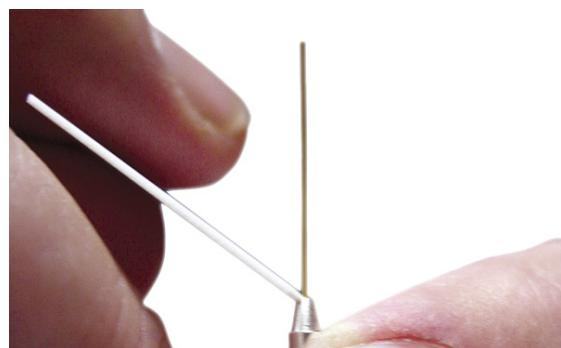

Figure 12.
- 2 Check the column end. It should be square and free of cracks. If needed, trim it. See **Figure 12**